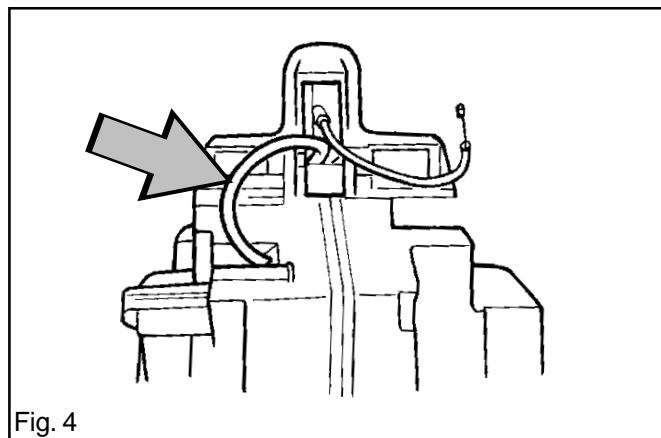

Fig. 4
See fig. 4.
- C Turn the pipe so that it bends upwards. See fig. 4.